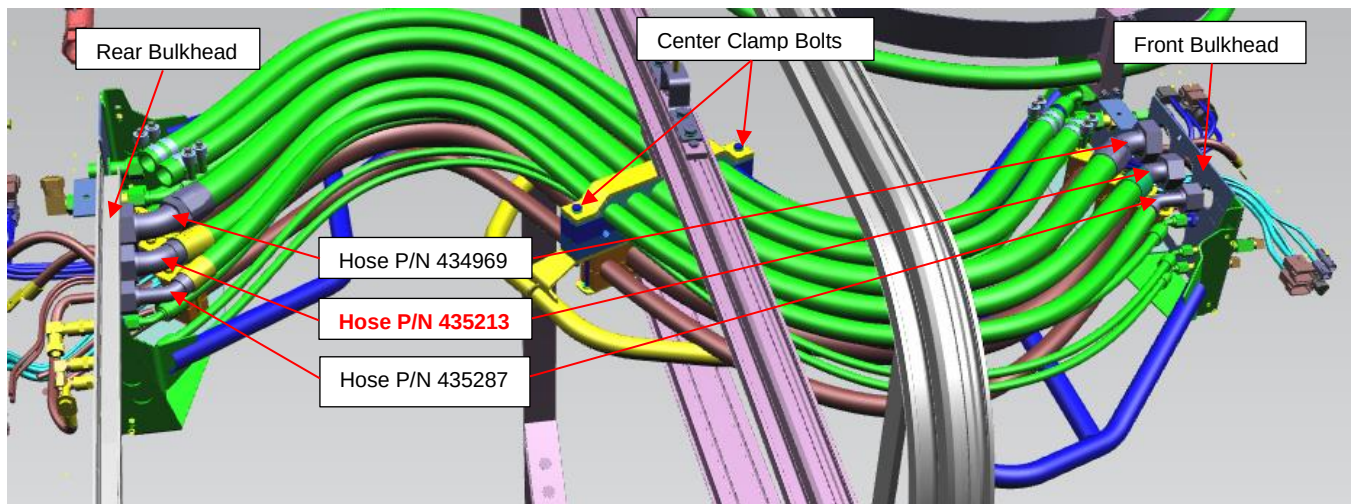

Figure 3: Artic Joint Hoses Viewed from Above.
11. Remove the bolts that secure the two halves of the center clamp and loosen the center bolt so the two hoses can be removed. See figure 3.